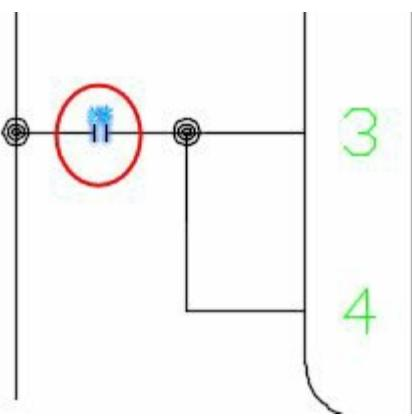
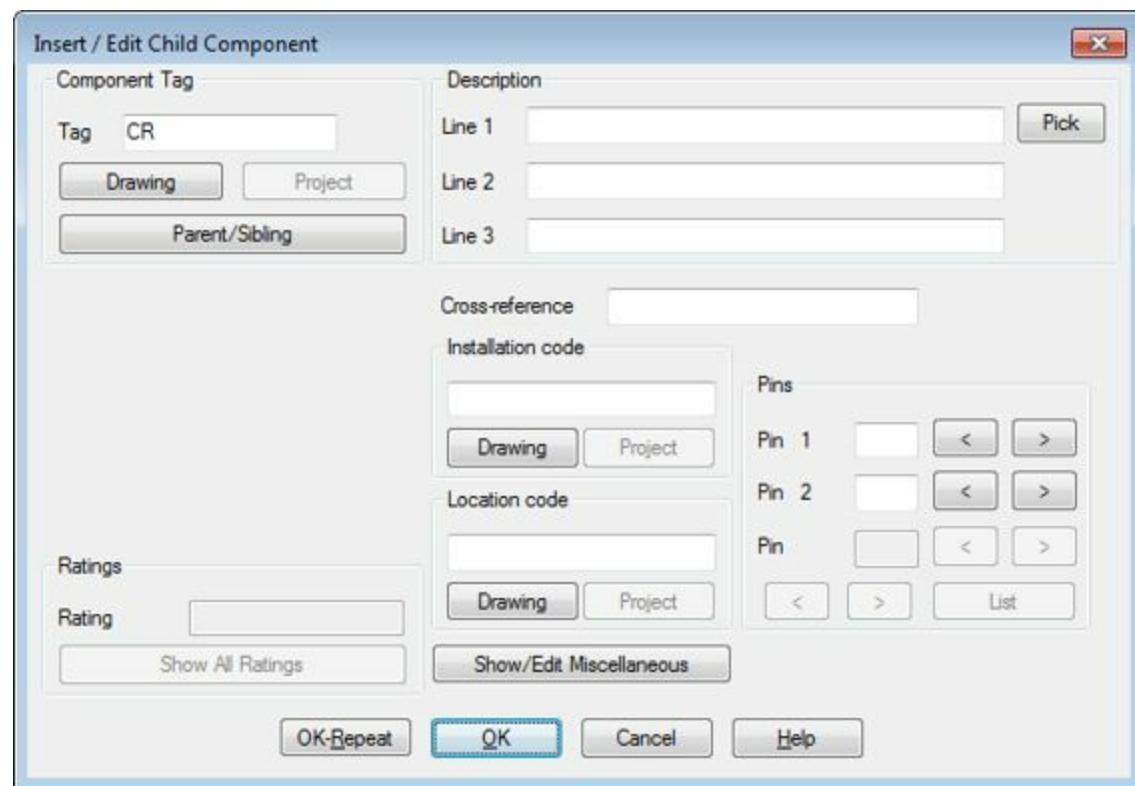

Figure-41. Relay placed
Figure-42. Insert or Edit Child Component dialog box for relay
- Place the component on the wire connected to Connector 3; refer to Figure-41. The **Insert/Edit Child Component** dialog box will be displayed; refer to Figure-42.